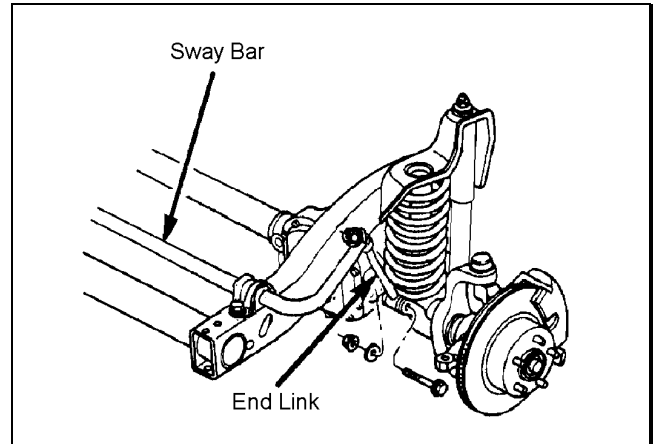

Figure 3
- 8) ☐ Position a floor jack under the front axle for support. Remove both front sway bar end links. See Figure 3.